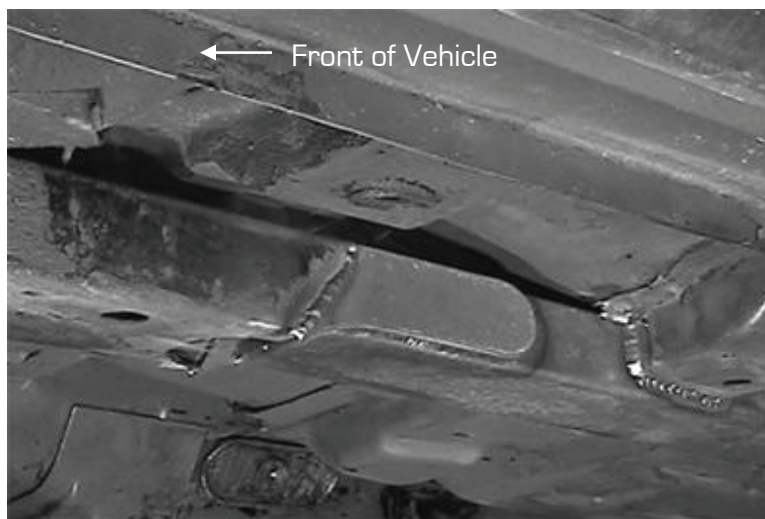

Figure 14
19. Lastly, weld the front of the connector to the rear of the front subframe (Figure 14). Finish by painting the newly installed parts to protect from corrosion. Reinstall fuel and brake lines, lower vehicle, and enjoy your dramatically stiffer F-body.